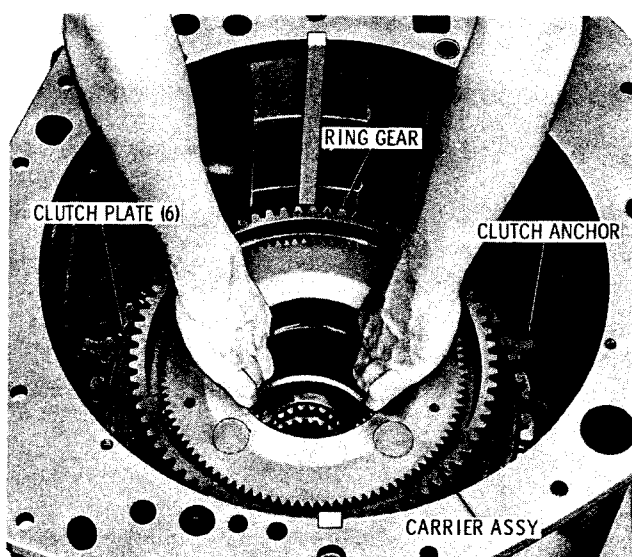

Fig. 7-14. Installing intermediate-range planetary carrier assembly and ring gear
(10) Install intermediate-range clutch anchor, flat side downward (fig. 7-14). Beginning with an external-splined plate, alternately install three external-splined clutch plates, and three internal-splined clutch plates.
(11) Install the intermediate-range planetary carrier assembly and ring gear, as assembled in (9), above (fig. 7-14). Rotate the carrier assembly during installation to engage both the low- and intermediate-range clutch plates.